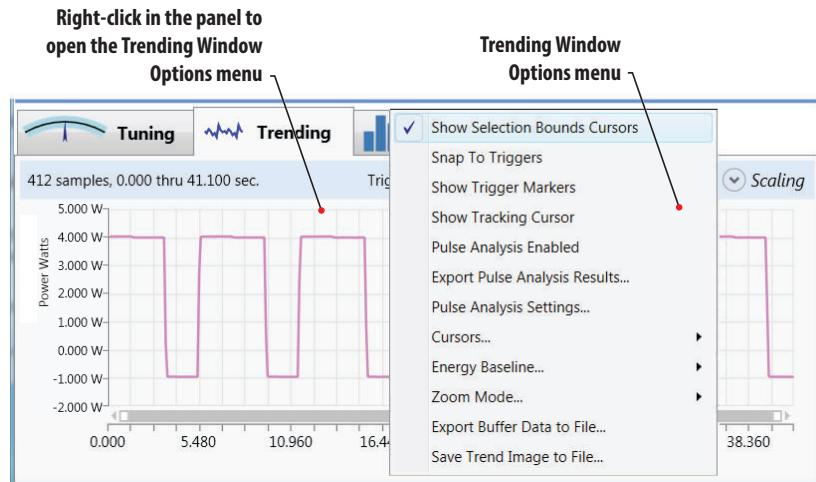

Figure 7-2. Trending Options
1. [Trending view tab] Right-click in the Graphics viewing panel to open the Trending Window Options menu. Refer to Figure 7-2.
2. From the pop-up menu shown in Figure 7-2, select the desired options to display: